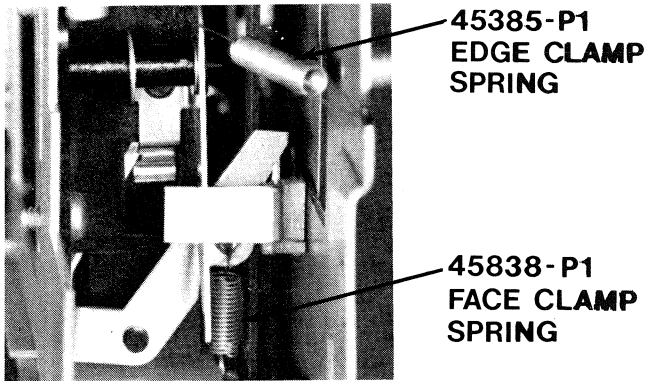

Figure 3-15. Slide Clamp Springs
2. Shutter Service. If shutter or slide clamps fail, check four control springs (Figure 3-15 & 3-16)